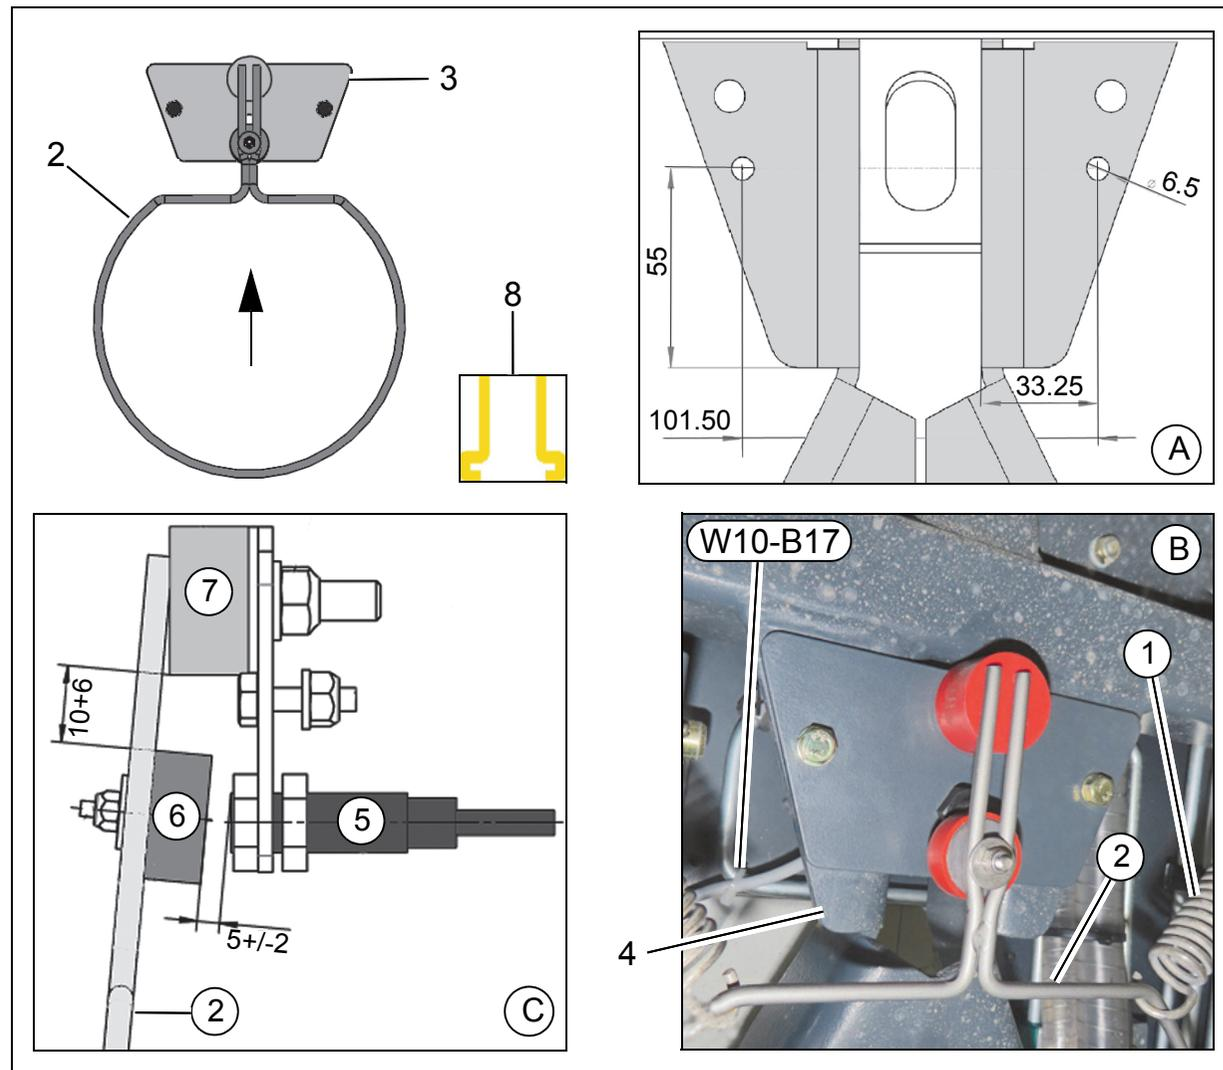

Fig. 4
1. Remove the existing centring ring from the four springs (Fig. 4/1).
2. Hook the provided centring ring (Fig. 4/2) into the four springs (Fig. 4/1). The forks of the centring ring must point in the driving direction.
3. Fit the sensor plate (Fig. 4/3) to the holder (Fig. 4/4). Make holes if necessary, see sketches A and B (view: front of vehicle from below).
4. In the upper end position the forks of the centring ring (Fig. 4/2) are in contact with the rubber buffer (Fig. 4/7), see sketch C.
5. The position of the sensor (Fig. 4/5) must be aligned in relation to the magnet (Fig. 4/6). Set air gap between magnet and sensor to approx. 5 mm, see sketch C.
7. Function test: If the suction mouth is not in the upper end position, the warning symbol (Fig. 4/8) appears on the multifunction display.